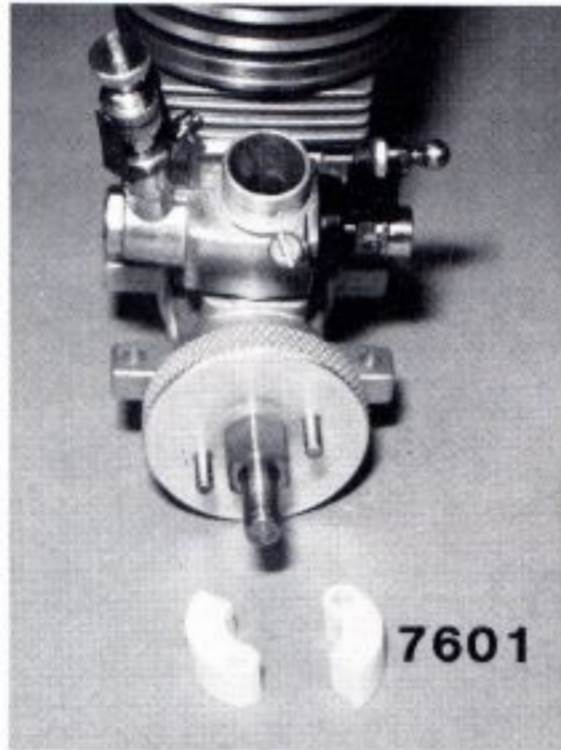

Fig. 256
Now mount the ball end on the pivot arm with the ball facing away from the carburetor. Thread the 2-56 nut onto the other end and tighten. We recommend using Loctite on the threads to keep the nut from coming loose due to engine vibrations. Reinstall the carburetor to the engine and tighten the clamp nut or the mounting screws. We want the throttle pivot arm to be parallel with the crankshaft on the Dynamite engine; the other engines have fixed carb locations. See fig. 256.
□ **Figs. 256, 257 & 258** Now we need to get out the two #7601 clutch shoes and the #7602 clutch shoe spring. Before we install the clutch shoes we need to deburr the four small holes in the clutch shoes with an X-acto® knife. Do both sides. The clutch shoes install as shown in fig. 256. Before we install the clutch spring, check and make sure that both of the spring legs are straight and not bent. If they are bent, carefully straighten them with your needlenose pliers. Trying to install springs, with bent legs, into the clutch shoes can cause the spring to break. There are four holes in the clutch shoes so that you can tune the clutch to match the track conditions and your driving style. To start with, use the third hole from the flywheel pivot pins. We will discuss more detailed clutch tuning a little later in the instruction manual.